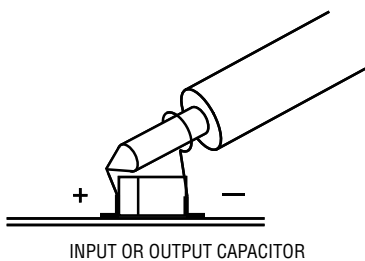

Figure 2. Proper Scope Probe Placement for Measuring Input or Output Ripple
**NOTE:** When measuring the input or output voltage ripples, care must be taken to avoid a long ground lead on the oscilloscope probe. Measure the input or output voltage ripple by touching the probe tip directly across the  $V_{IN}$  (E1) and GND (E2), or  $V_{OUT}^{+}$  (E3) and  $V_{OUT}^{-}$  (E4) terminals. See Figure 2 for proper scope probe technique.